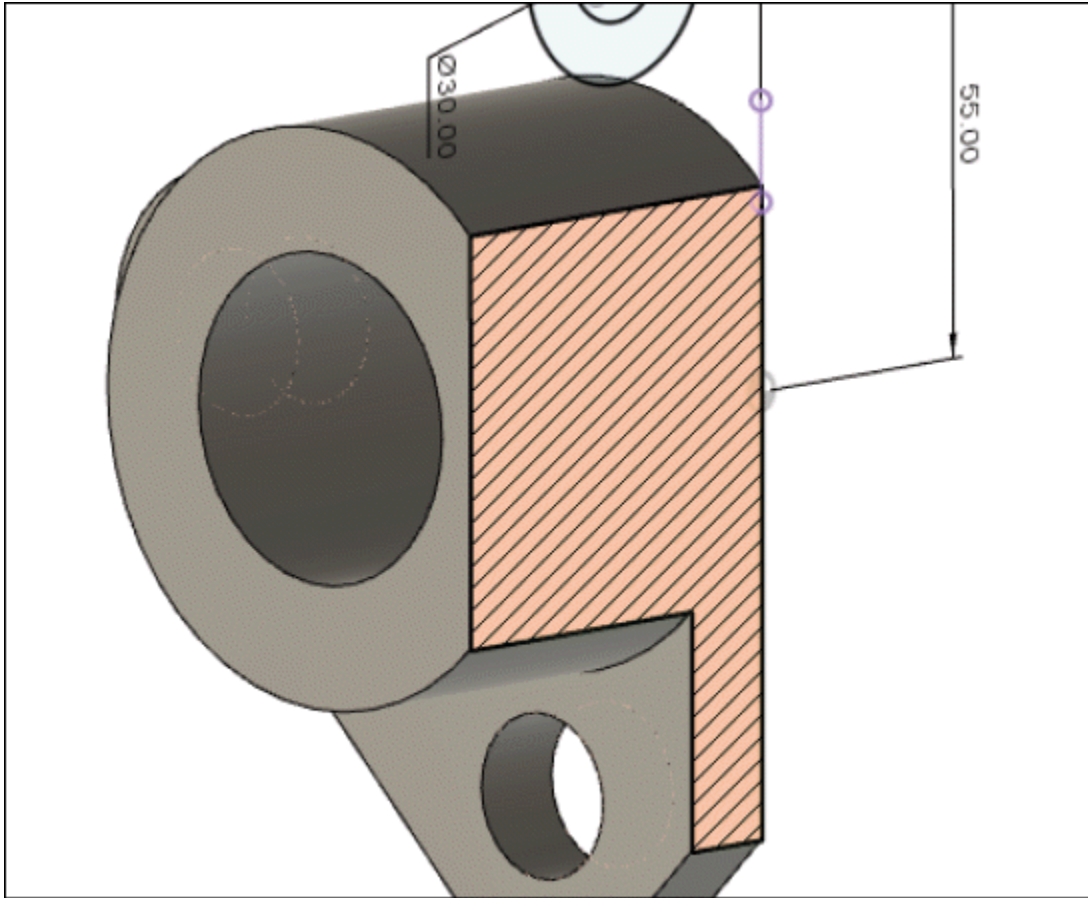

Figure-49. Slice created
- Select **Slice** check box from **SKETCH PALETTE** dialog box. The slice of the model will be created; refer to Figure-49.